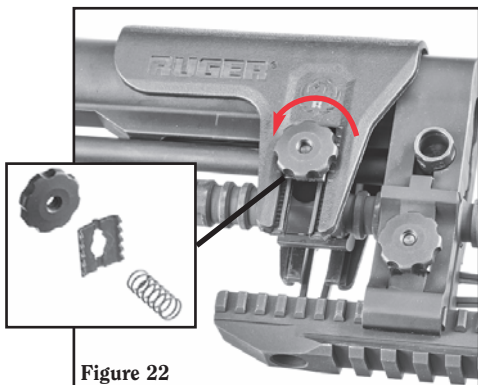

Figure 22
1. The cheek piece cam lever can be moved to the other side of the stock. To switch the cheek piece cam lever, release the cam lever, and remove the nut, washer and spring from the cheek piece. (See Figure 22.)